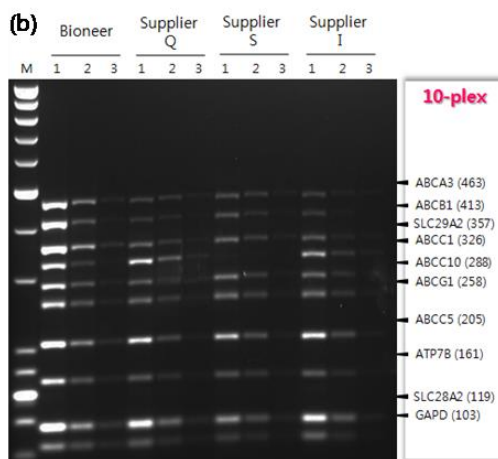

Figure 2. Comparison of amplification quality between *AccuPower* Gold Multiplex PCR PreMix and other supplier's Multiplex PCR kits.
1) Figure 1, Figure 2. (a)
2) Figure 2. (b)